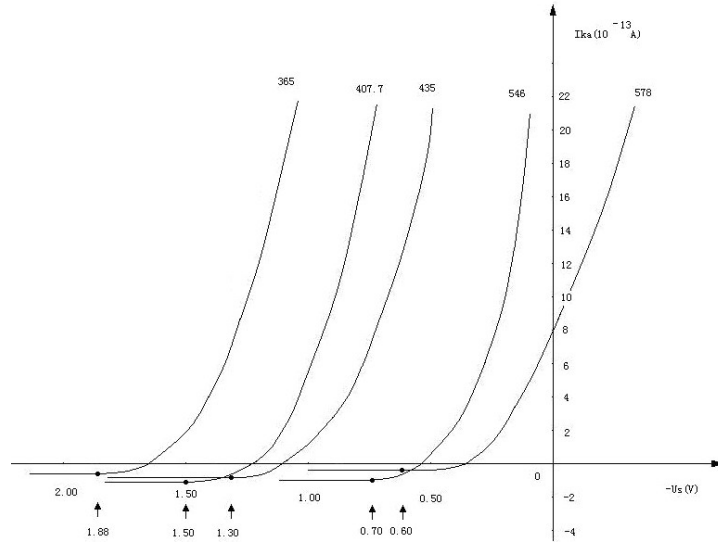

Figure 6 $V \sim I$ characteristic curves of different light frequencies
- (1) Set “Current Range” switch to 10^{-13} and “Voltage Range” button to I (-2 to +2 V).
- (2) Select the 365.0 nm filter, and set aperture size to 8 mm.
- (3) Increase voltage slowly from -2 V using the “Voltage Adjust” knob while observing the change in photocurrent, record the voltage value in Table 1 when the current changes from zero to a non-zero value, and record denser data points around the region where the current changes sharply (the front portion of the $I\sim V$ curve). Change “Voltage Range” to II (-2 to +20 V) for data taking of the rear portion of the $I\sim V$ curve (change “Current Range” to 10^{-11} if necessary).
- (4) At $U_{AK}= 20$ V, set “Current Range” to 10^{-11} , record photo currents of different aperture sizes of 4, 8, 10 and 12 mm into Table 2.
- (5) Set aperture size to 8 mm, and select filters of 404.7 nm, 435.8 nm, 546.1 nm and 577.0 nm in sequence, repeat steps (3) and (4).
(6) Plot $V \sim I$ characteristic curves under different illuminating wavelengths of the photoelectric tube using the data in Table 1, as shown in Figure 6.
From each $I \sim V$ curve in Figure 6, find the cutoff voltage U_s , where the current starts to increase rapidly from its flat portion. Data is recorded in Table 3 as shown below.